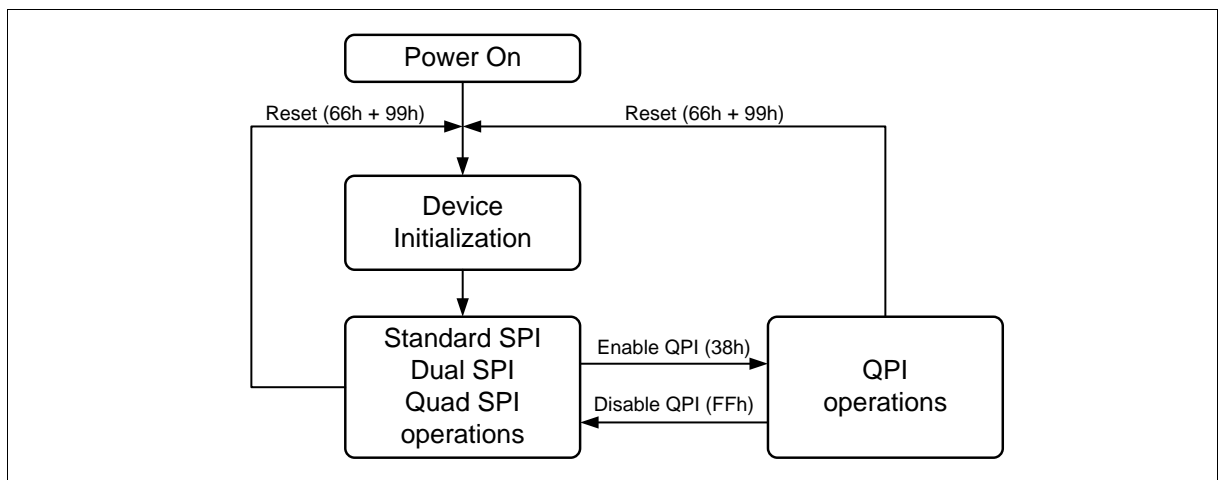

Figure 2 FM25Q04 Serial Flash Memory Operation Diagram
The FM25Q04 supports Quad Peripheral Interface (QPI) operations only when the device is switched from Standard/Dual/Quad SPI mode to QPI mode using the “Enable QPI (38h)” instruction. The typical SPI protocol requires that the byte-long instruction code being shifted into the device only via DI pin in eight serial clocks. The QPI mode utilizes all four DQ pins to input the instruction code, thus only two serial clocks are required. This can significantly reduce the SPI instruction overhead and improve system performance in an XIP environment. Standard/Dual/Quad SPI mode and QPI mode are exclusive. Only one mode can be active at any given time. “Enable QPI (38h)” and “Disable QPI (FFh)” instructions are used to switch between these two modes. Upon power-up or after a software reset using “Reset (99h)” instruction, the default state of the device is Standard/Dual/Quad SPI mode. To enable QPI mode, the non-volatile Quad Enable bit (QE) in Status Register-2 is required to be set. When using QPI instructions, the DI and DO pins become bidirectional DQ_0 and DQ_1 , and the WP# and HOLD# pins become DQ_2 and DQ_3 respectively. See Figure 2 for the device operation modes.